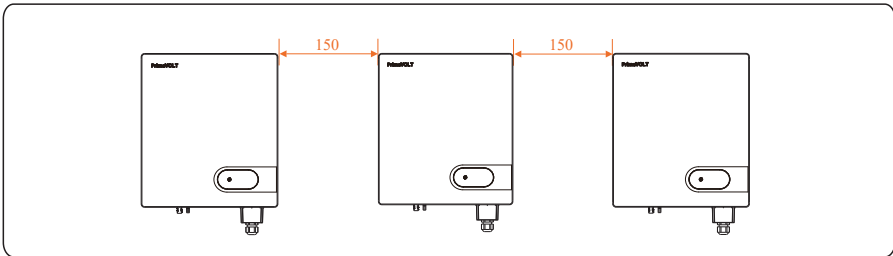
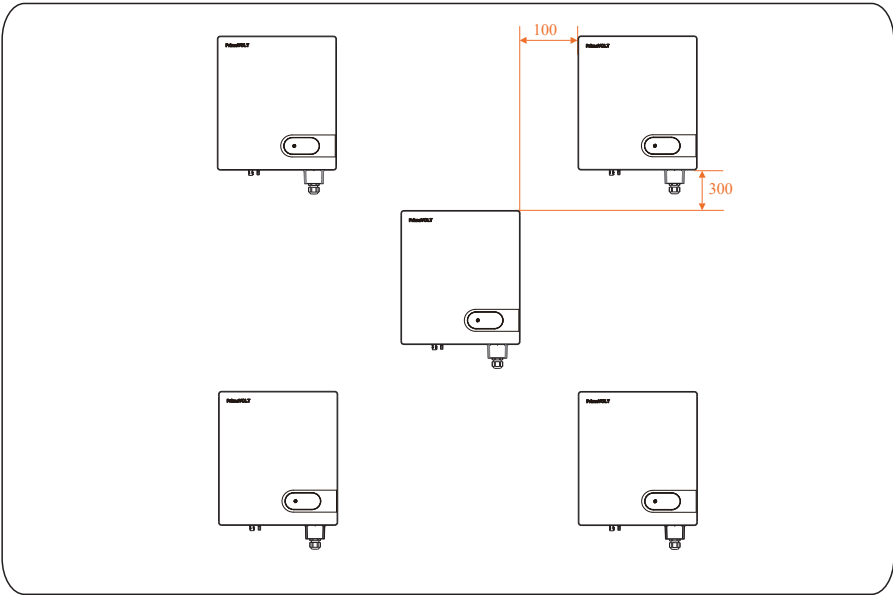
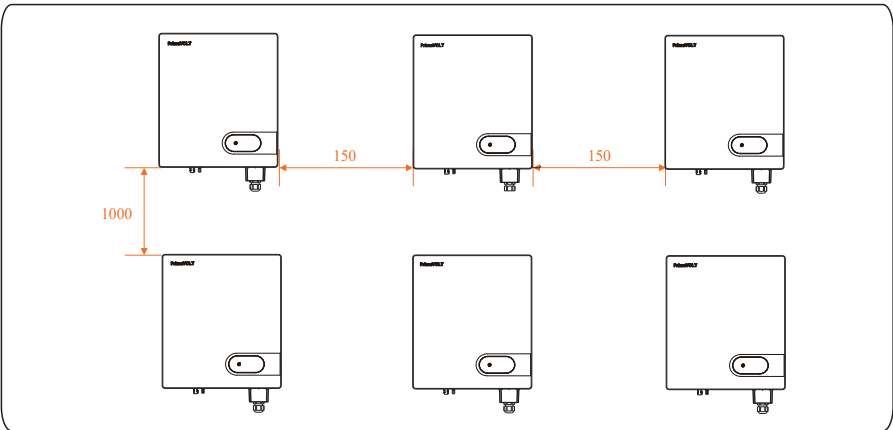

Figure4.5 Installation along the same line (unit: mm)
Figure4.6 Installation in triangle mode (unit: mm)
Figure4.7 Installation in stacked mode (unit: mm)
c. When installing multiple inverter, install them along the same line (as shown in Figure 4.5) if sufficient space is available, and install them in triangle mode (as shown in Figure 4.6) or in stacked mode (as shown in Figure 4.7) if no sufficient space is available. The installation modes ensure sufficient space for installation and heat dissipation.